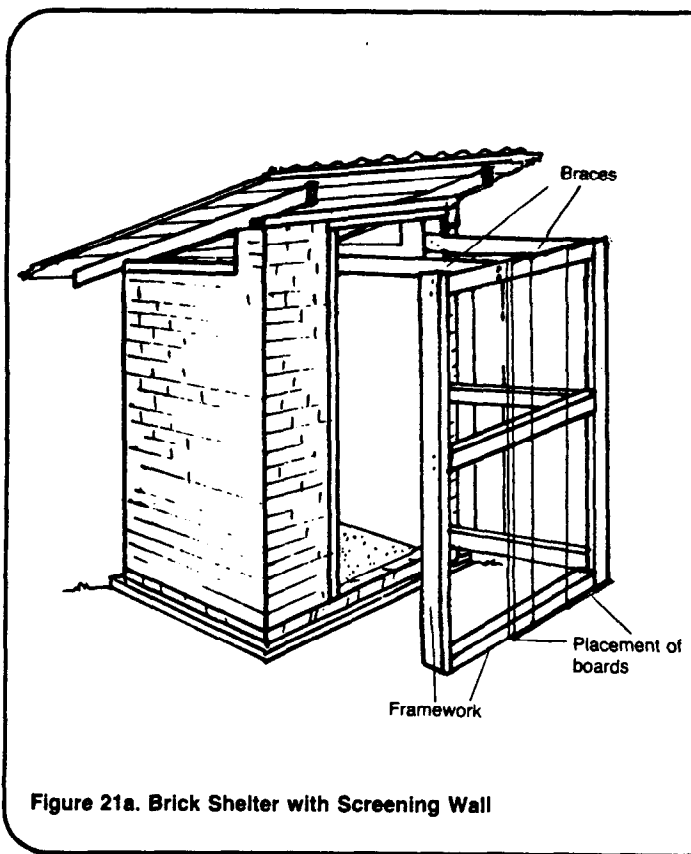

Figure 21a. Brick Shelter with Screening Wall
11. Build a screening wall, if there is one, by nailing uprights to the wood beam foundation. Nail the crossbraces to the uprights and to the top beam of the shelter. Nail the boards to the uprights as shown in Figure 21a.